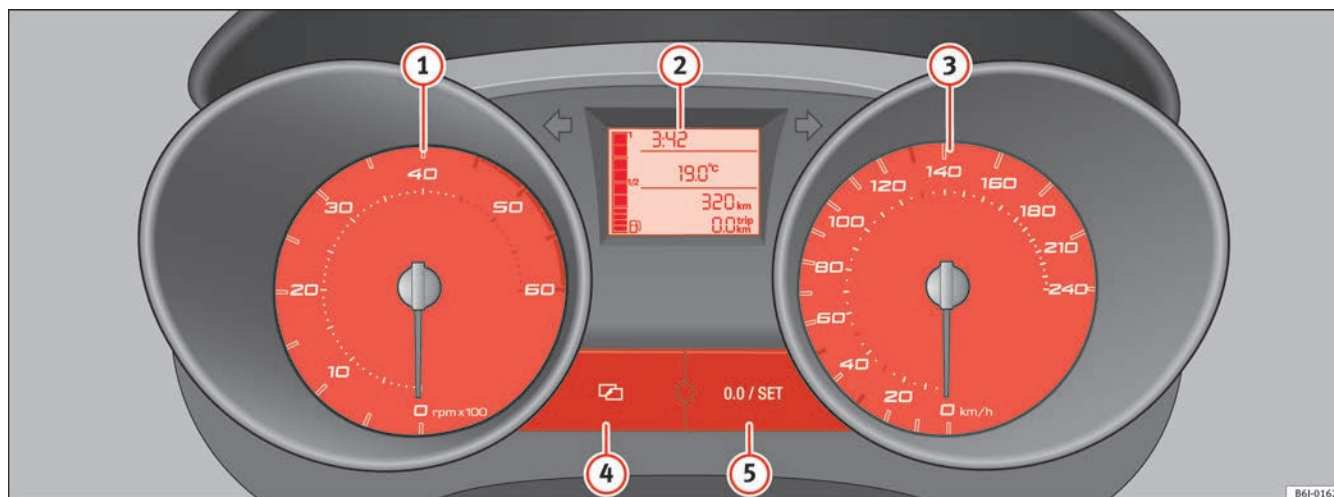

Fig. 30 Detailed view of instrument panel: instrument panel
The start of the red zone ⇒ page 51, fig. 30 ① indicates the maximum engine speed operating at service temperature. However, it is advisable to change up into a higher gear, move the selector lever to D or lift your foot off the accelerator before the needle reaches the red zone.
- To set the hour, press button ④ ⇒ page 51, fig. 30. The “hour” option flashes on the digital display and is set using button ⑤ “set” ⇒ page 51, fig. 30. ►
- To set the minutes, press button ④ again and select the minute option. Set from button ⑤ “set”.
The lower counter registers the short journeys. The last digit indicates 100-metre sections. The trip recorder counter may be reset by pressing the reset button ⇒ page 51, fig. 30 ⑤.